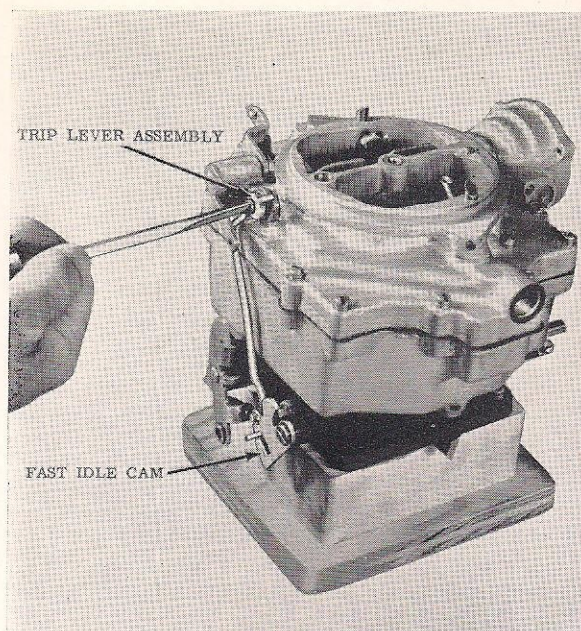

Figure 7-30
18. Then install the trip lever, spacing washer, and retaining screw on the end of the choke shaft. (Figure 7-30.)